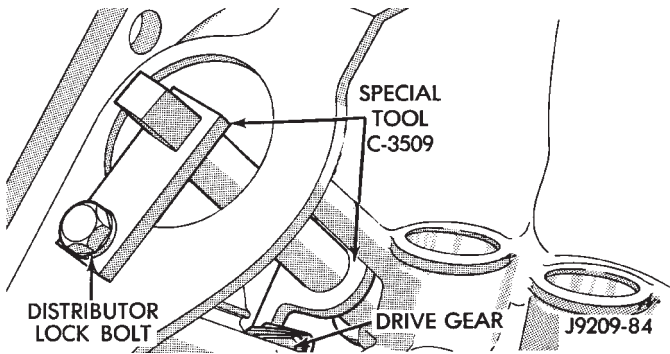

Fig. 29 Camshaft Holding Tool C-3509 (Installed Position)
(2) Install Camshaft Gear Installer Tool C-3509 with tongue back of distributor drive gear (Fig. 29).